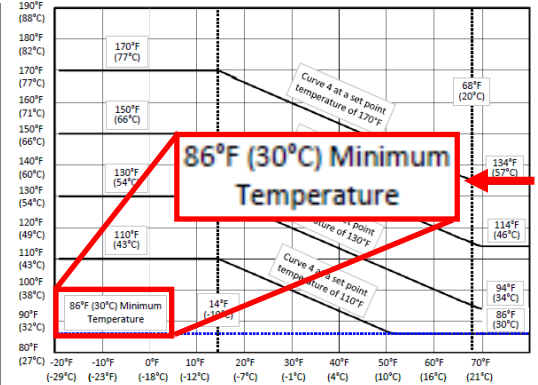

Fig 2. Minimum Temperature on Outdoor Reset Curve 4 as shown in the “I-Series Combi Boiler Installation and Operation Manual”
Description:	The following temperatures have been lowered from 104°F (40°C) to 86°F (30°C): <ul style="list-style-type: none"> Minimum Central Heating (CH) operation temperature (temperature was lowered to reduce the need of additional mixing valves for low temperature heat emitter systems). Minimum temperature of Outdoor Reset Curve 4 in Parameter 01 (Fig 2).